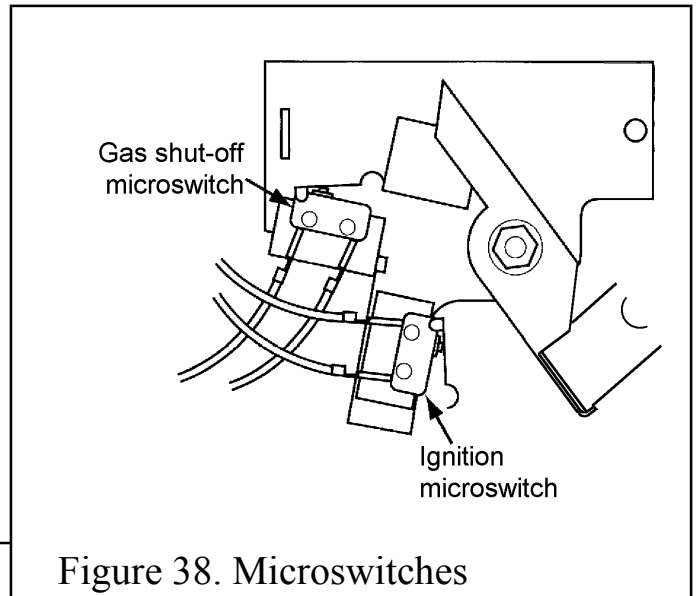

Figure 38. Microswitches
3. Disconnect the leads from the ignition microswitch (The lower of the two microswitches - See figure 38).
4. Detach the microswitch assembly by removing two screws. See figure 38.